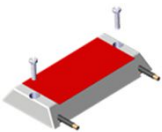

Figure2
3. Fix the module by using M2.5 screws. When clamping, the torque is around 0.4 Nm, please refer to Figure 2.